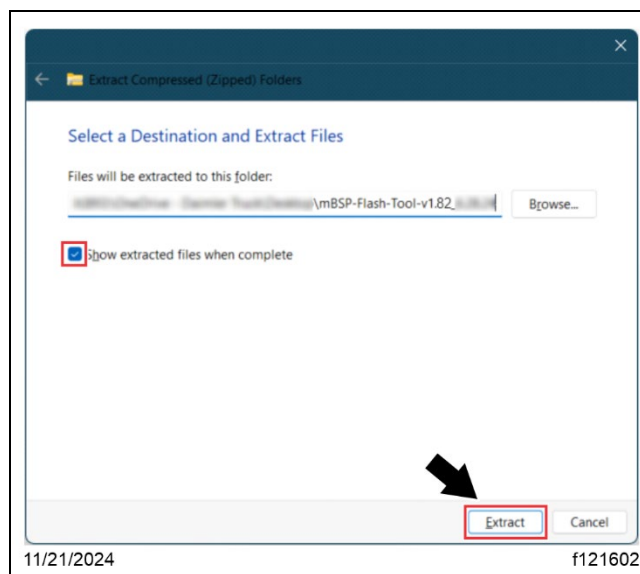

Fig. 27, Extract Compressed Folders Window
6.2. The 'Extract Compressed (Zipped) Folders' window opens. Select the checkbox next to 'Show extracted files when complete,' then select 'Extract.' See Fig. 27.